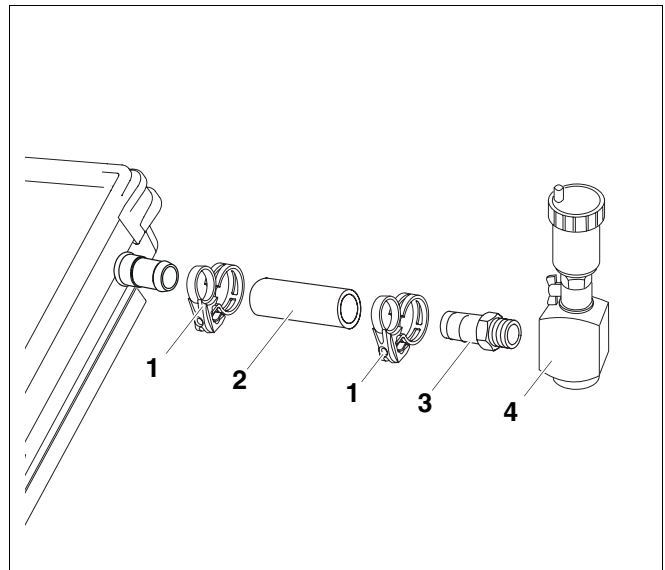

Fig. 43 Connection of air trap and venting valve
- ▶ The flow connection (top connection of the last collector in the hydraulic chain) requires that the short solar hose (Fig. 43, **Item 2**) is fitted to the collector using a hose clip (Fig. 43, **Item 1**).
- ▶ Fit the hose coupling supplied (Fig. 43, **Item 3**) to the air trap (Fig. 43, **Item 4**).